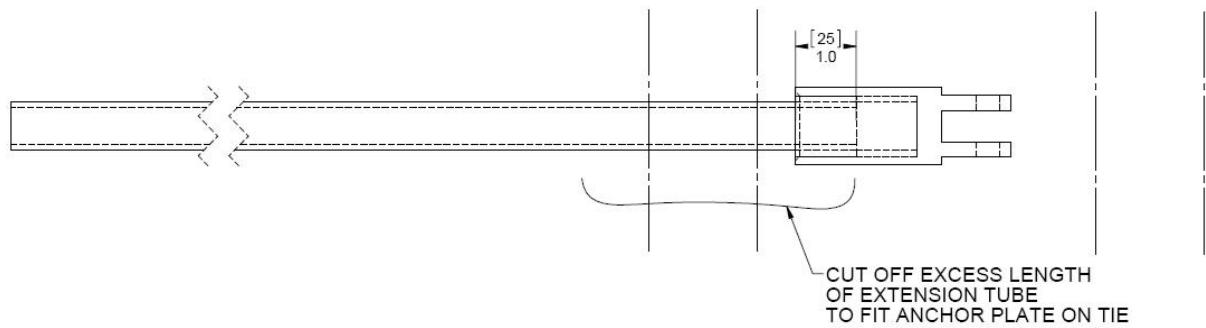

FIGURE 3-5 CUTTING THE EXTENSION TUBE TO MAKE SURE ANCHOR PLATE SITS ON TIE
- 3 Cut the excess length of the extension tube (Figure 3-5) with the saw. As much as possible, ensure the cut is 90° to the length of the extension tube.